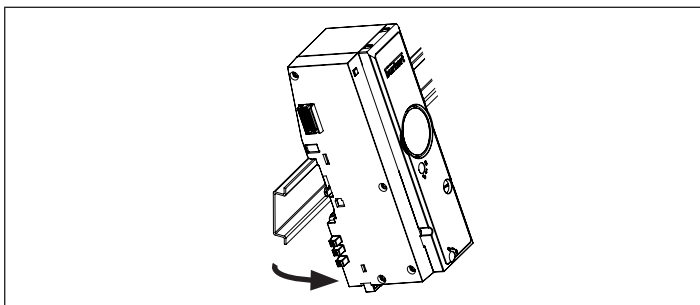

Fig. 18: Loosening the connection module from the standard rail
→ Next, tilt the connection module slightly upwards and loosen it from the standard rail (see “Fig. 18”)
- Next, tilt the connection module slightly upwards and loosen it from the standard rail (see “Fig. 18”).
→ Next, tilt the connection module slightly upwards and loosen it from the standard rail (see “Fig. 18”).
→ Next, tilt the valve unit slightly upwards and loosen it from the standard rail (see “Fig. 18”).